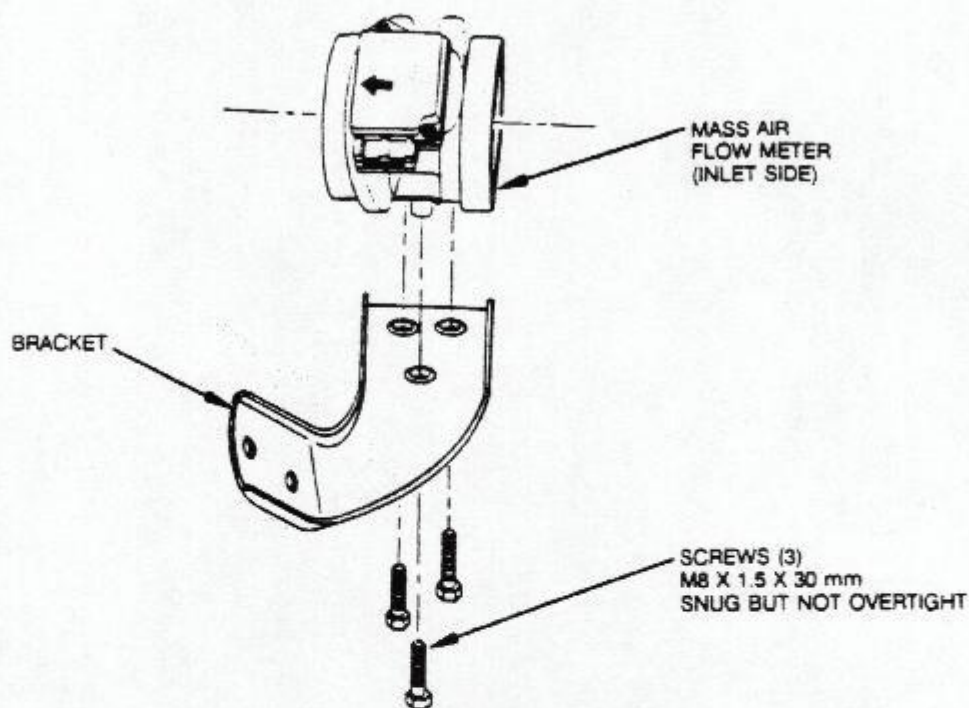

FIGURE 4
STEP 6 Attach bracket to Mass Air Flow Meter (MAF), if required, with the screws provided. Snug down but do not over tighten, see figure 4.